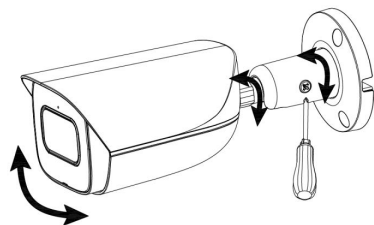

Figure 2
5. Using the key, loosen the locking screws on the mounting bracket arm, point the camera in the desired direction by rotating the camera body and mounting bracket arm, then tighten the screws (refer to Figure 2).